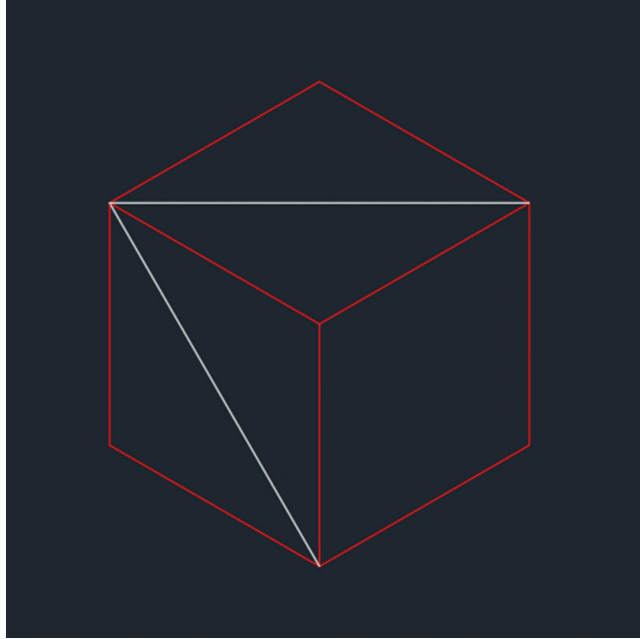

FIGURE A.7 Drawing temporary construction lines on layer 0
10. Using the Layers drop-down, set layer 0 current. Draw two white lines snapping to opposite endpoints, as shown in Figure A.7.